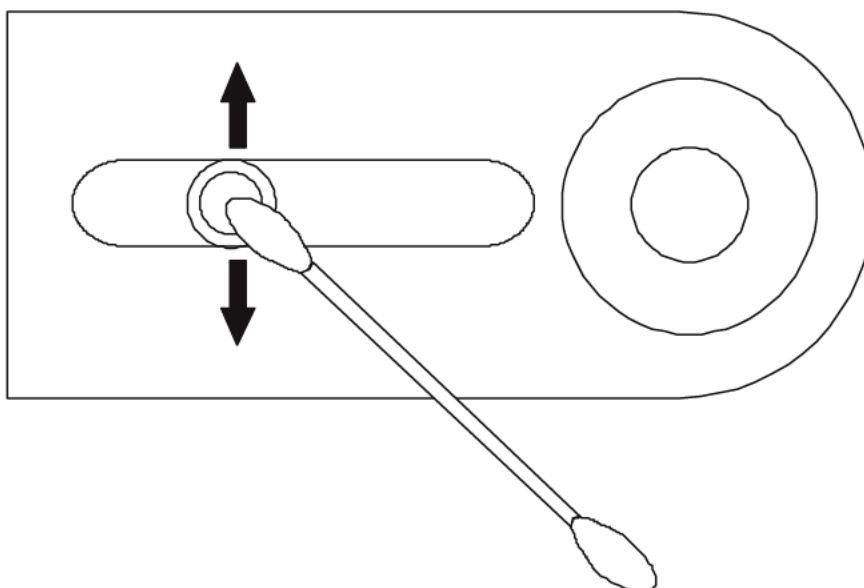

Figure 3-3. Cleaning the Laser Lens
1. Remove loose particles from the lens by gently brushing it with a camel's hair brush or a blow brush (both items can be purchased at most camera supply stores). Brush in the direction of the arrows shown in *Figure 3-3*. Take care not to snag brush bristles under the lens. The lens is mounted on a delicate suspension spring that may be damaged with even a soft brush.
2. Remove any remaining dirt by placing one to three drops of Kodak Lens Cleaner (Kodak Catalog Number 176 7136, available from photographic supply stores or Rowe 21966601) on a lint-free "Q"-Tip and very gently wiping dust and smoke deposits from the lens. Wipe in the direction of the arrows shown in *Figure 3-3*. Take care not to damage the delicate lens suspension spring. Do not allow any of the lens cleaner to run down the side of the lens.